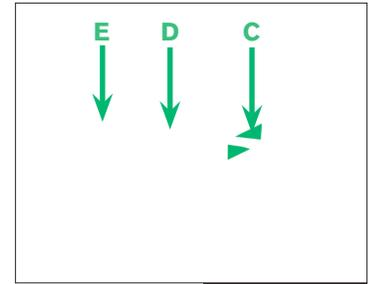

FIGURE 2
- 2a** Next, orient the limbs and riser assembly (Part B) so that bowstring (Part 19) rests on top of the flight rail (Part 5) and the cable slide fits into the opening at the end of the rail. The side of the cable slide with the open groove should face up, with the wider opening facing the back of the crossbow, so that it smoothly slots into the rail opening. See Figure 2.
- 4** Slide the joint cap onto the rail, with the foam joint cap pad facing out, until it is fully seated, as seen in Figure 2.